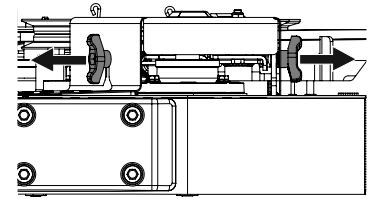

Figure 53
- Remove the hex thumb screws securing the belt covers to the deck. See Figure 53.